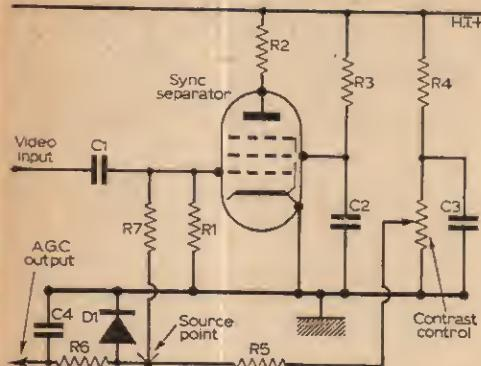

Fig. 15: Simplified circuit of mean-level a.g.c. system.
Control of the amount of feedback voltage is made by a compensating positive voltage being fed to the a.g.c. line. This is conveniently done by arranging the contrast control as part of a potentiometer network across the h.t. line, taking off the required positive voltage at its slider. Fig. 15 shows the rudiments of the system. The interesting points to note are the time constants of the circuit and the relative voltage levels. R5, R6 and R7 will all be resistors of more than $1\text{M}\Omega$ and the screen resistor of the pentode, R3, will also be a high value. The anode resistor R2, however, will be much lower in value, and in practice may be part of a network, used to tap off the field and line sync pulses. The capacitors in this circuit would typically be $0.1\mu\text{F}$.
If there is no control of contrast and a temporary short-circuit of the a.g.c. line to chassis increases the gain, the contrast control network should be suspected. This can be a considerably more complicated circuit than that shown in Fig. 15, and again some care must be taken when dealing with high value filter resistors which may have changed in value. An example might be when replacement of D1 or C4 only partially cures the fault. R5 or R6 may have changed in value if the set was operated under fault conditions for any length of time at minimum contrast setting. Temporarily shunting these resistors should not alter the gain drastically if all is in order. If it does, look for a "high" resistor at the point of test.
a.g.c. source, disconnecting at point X (Fig. 15), and inserting a fixed bias voltage in place of the a.g.c. An ordinary ohmmeter on the "Ohms" range is suitable, with 1.5 or 3V battery used as d.c. source (not on the high ohms ranges, which often use a battery of higher voltage). The potential on the test leads is opposite to the polarity markings, and the meter can be connected each way round, noting the effect on the picture. With the negative potential applied to the a.g.c. line, the picture should decrease, and vice versa. This test quickly determines whether the trouble is in the controlled stages or in the source stages and contrast network.